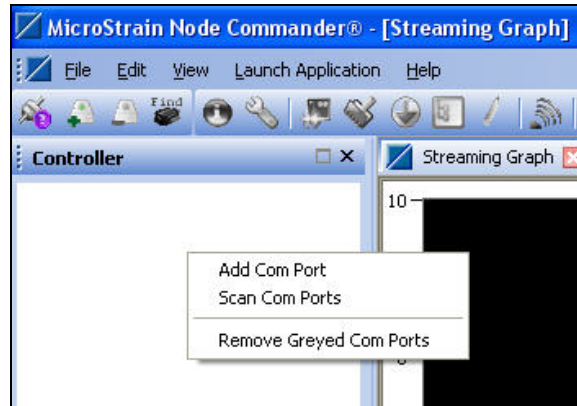

Figure 3
- Right-click in the white area and a pop-up menu will appear. See Figure 3.